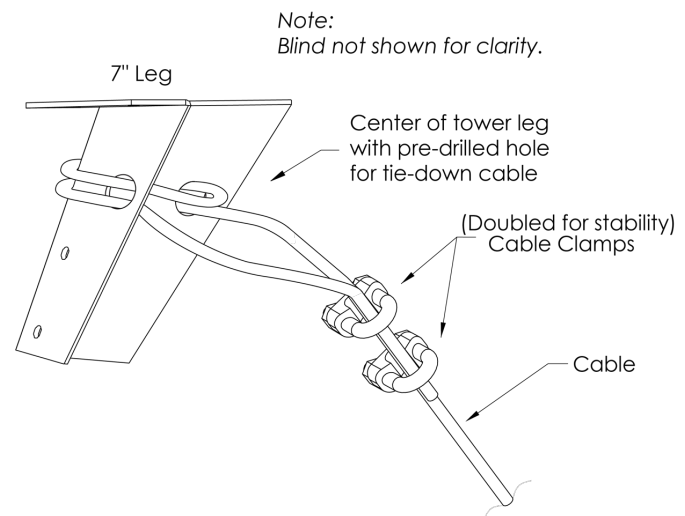

Figure 2
7. Run one cable from each turnbuckle eye to the opposite upper corner of the tower and loop the cable twice through the pre-drilled holes on the 7 inch legs. Secure with double cable clamps. The cables should criss-cross. **See Figure 2.**